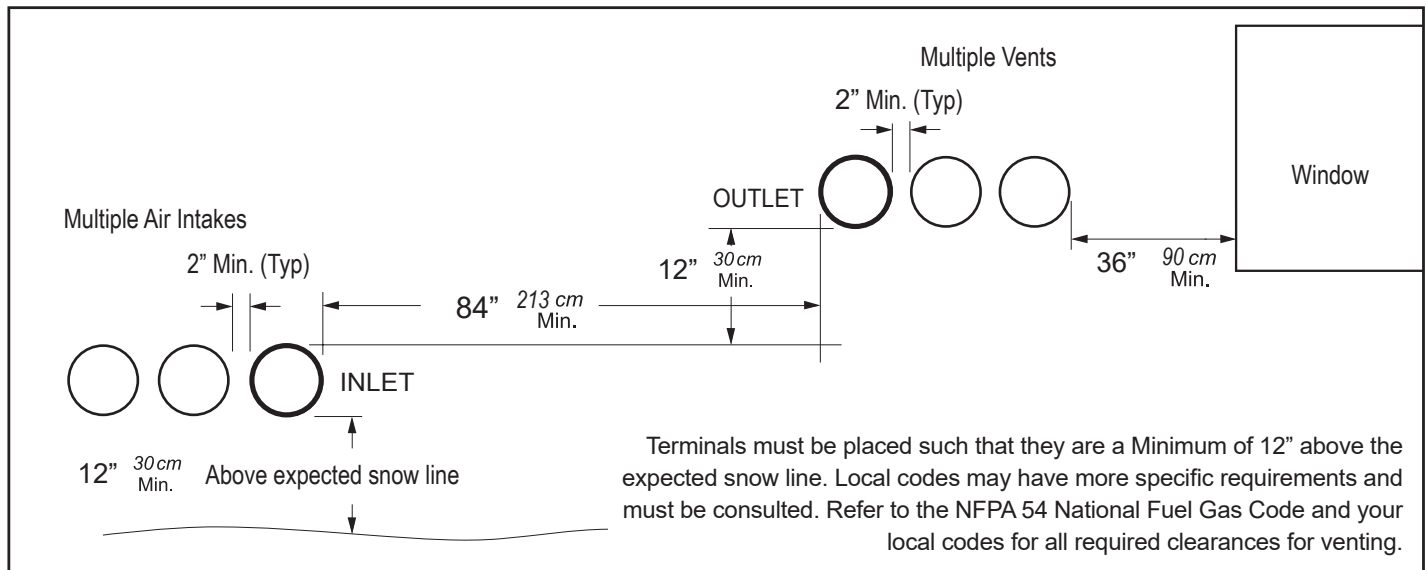

Figure 2. Minimum Side-wall Venting Distance for Single and Multiple Units.
1. Figure 2 shows the requirements for mechanical vent terminal clearances for the U.S. and Canada.
4. If the unit is side-wall vented to the same wall, use Figure 2 to determine the proper mounting locations.
5. Multiple vent kits should be installed such that the horizontal distance between outlet group and inlet group is 84" (213 cm). (See Figure 2).
6. The vent outlet must be at least 12" above the top of the air inlet and must be at least 84" (213 cm) horizontally from the air inlet. (See Figure 2).